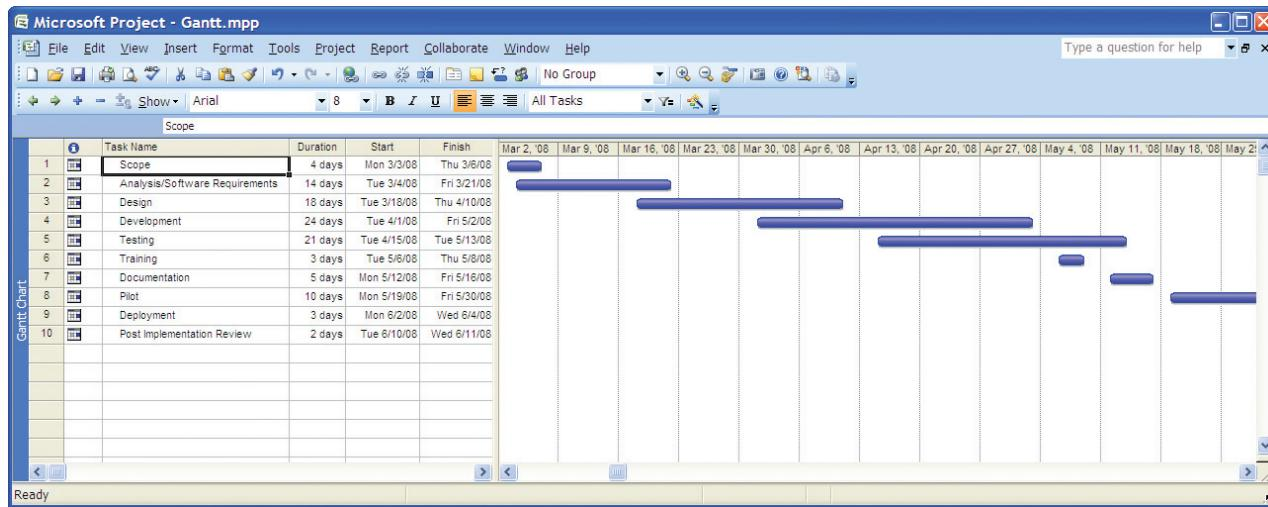

FIGURE T12.3
1. Start with a new workbook and enter the task data, as shown in Figure T12.3.
formulas that determine the end date for each task. For example, the formula used in our example (e.g., Figure T12.3) in cell **D4** is **=B4+C4**.